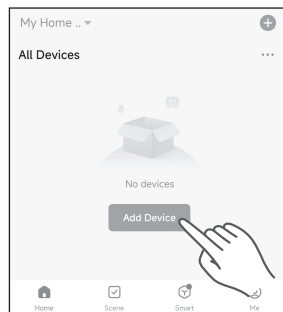

Figure5 Add Device
- 2) At this time, click the “ + ” in the upper right corner of the APP or click the “ Add Device ” button in the middle (Figure 5) to search for “ Star Pro Wi-Fi Thermostat ”.